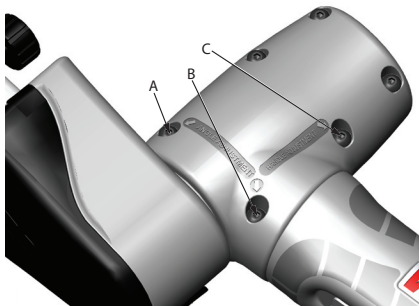

Fig. 4
2. Loosen M4 cap screws "A" and "B"; (See Fig. 4.)
2. Loosen M4 cap screws "B" and "C"; (See Fig. 4.)